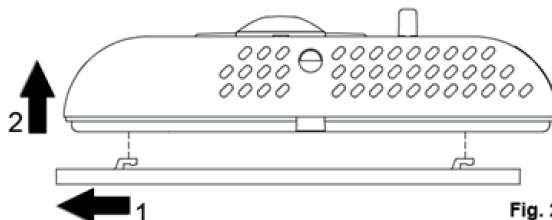

Fig. 2
- 1** Release the plate attached to the thermostat base by pushing it to the left. This releases the teeth shown in Fig. 2.